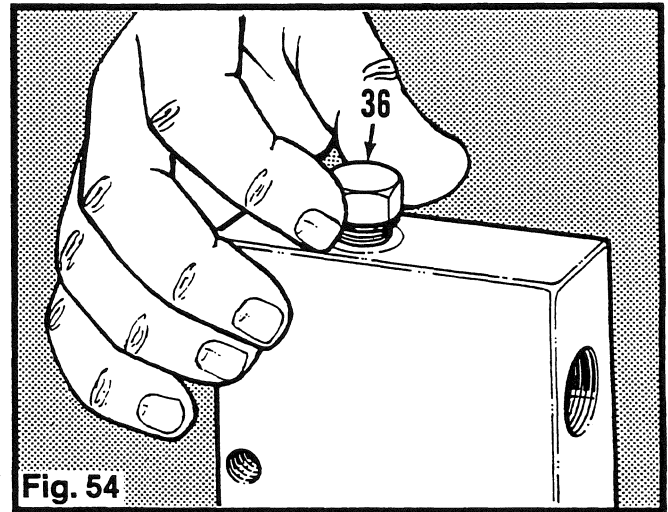

Fig. 54
2. Remove the O ring plugs (36). (Fig. 54)